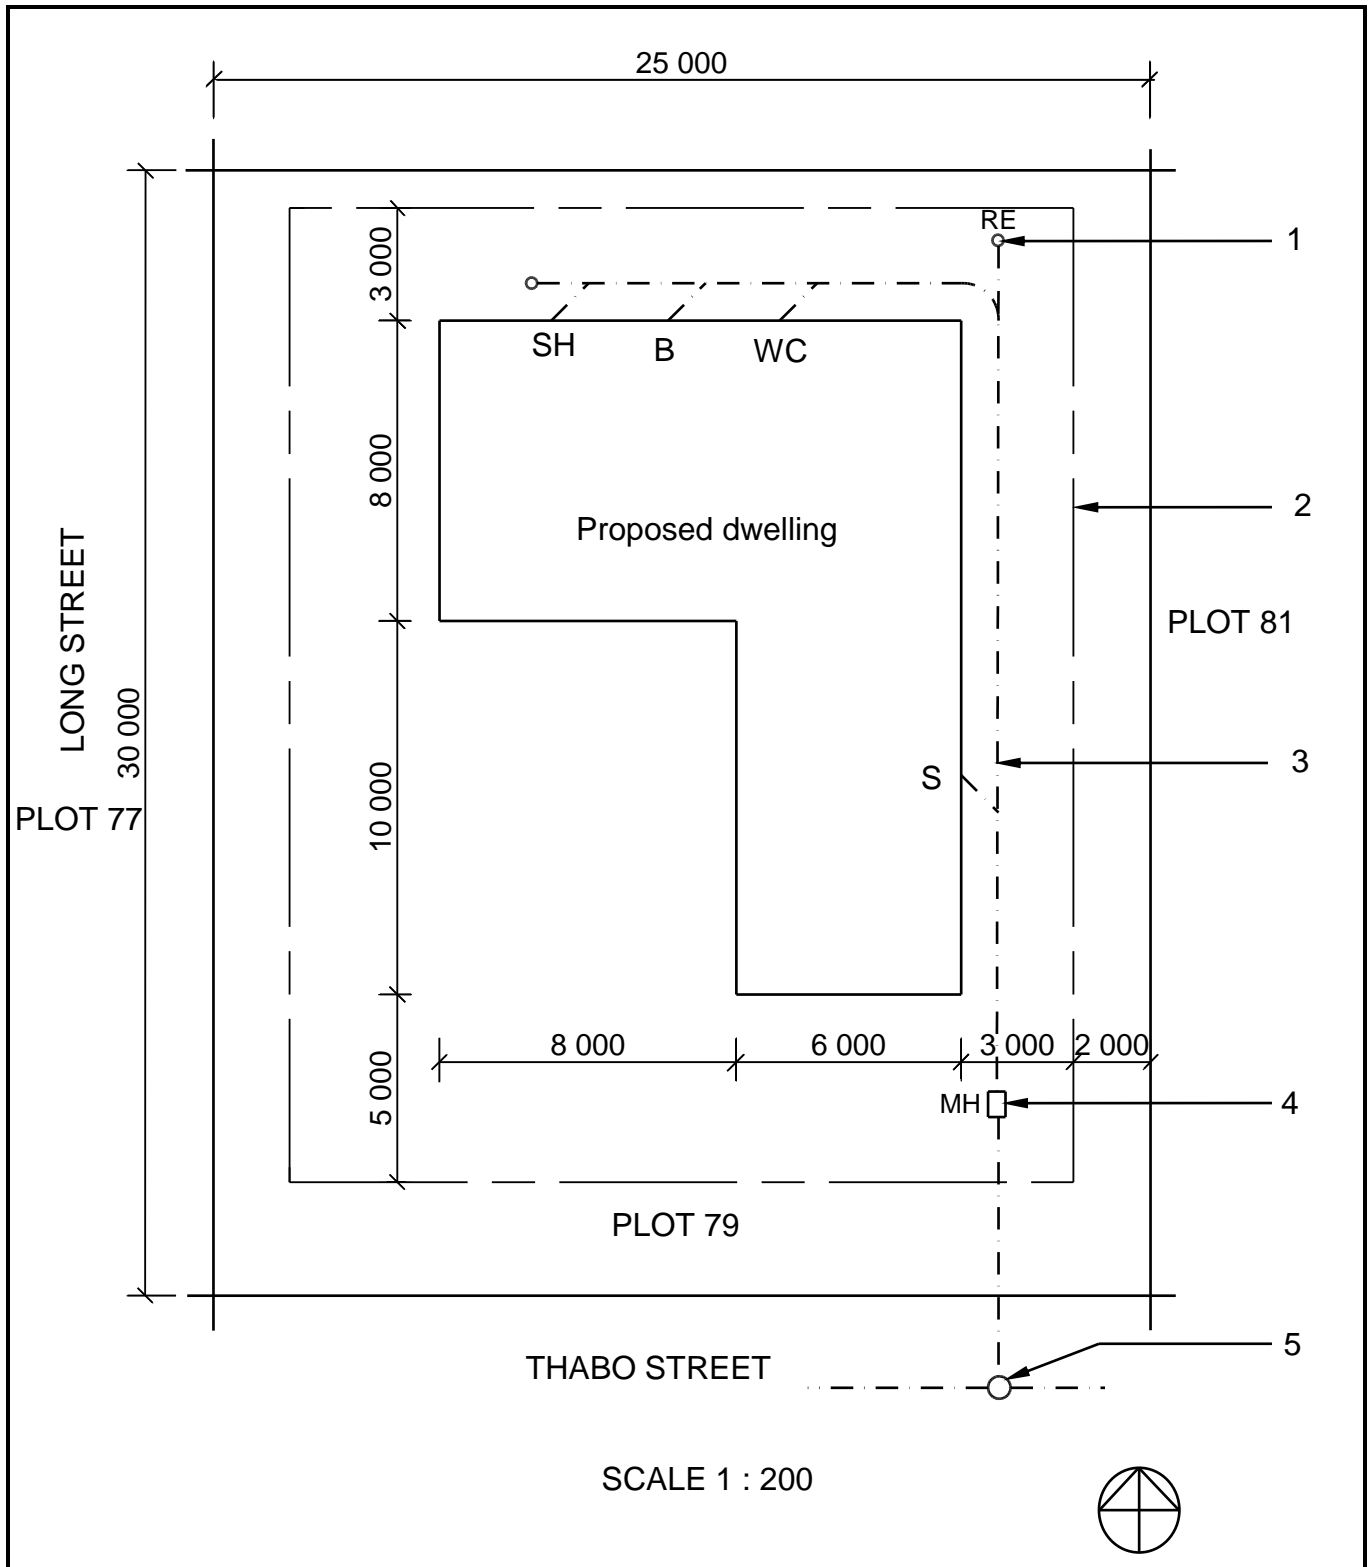

FIGURE 6.1
6.1 FIGURE 6.1 below shows the site plan of a proposed dwelling. Study the drawing and complete the table on ANSWER SHEET 6.1.